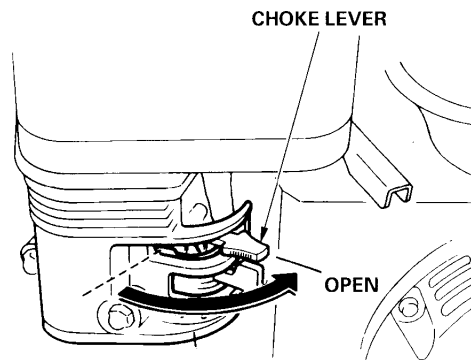

Figure 12. Engine Choke Lever (Open)
4. Place the ***choke lever*** (Figure 12) in the "OPEN" position if starting a ***warm engine*** or the ***temperature is warm***.
7. If the engine has started, slowly return the choke lever (Figure 12) to the **OPEN** position. If the engine has not started repeat steps 1 through 6.